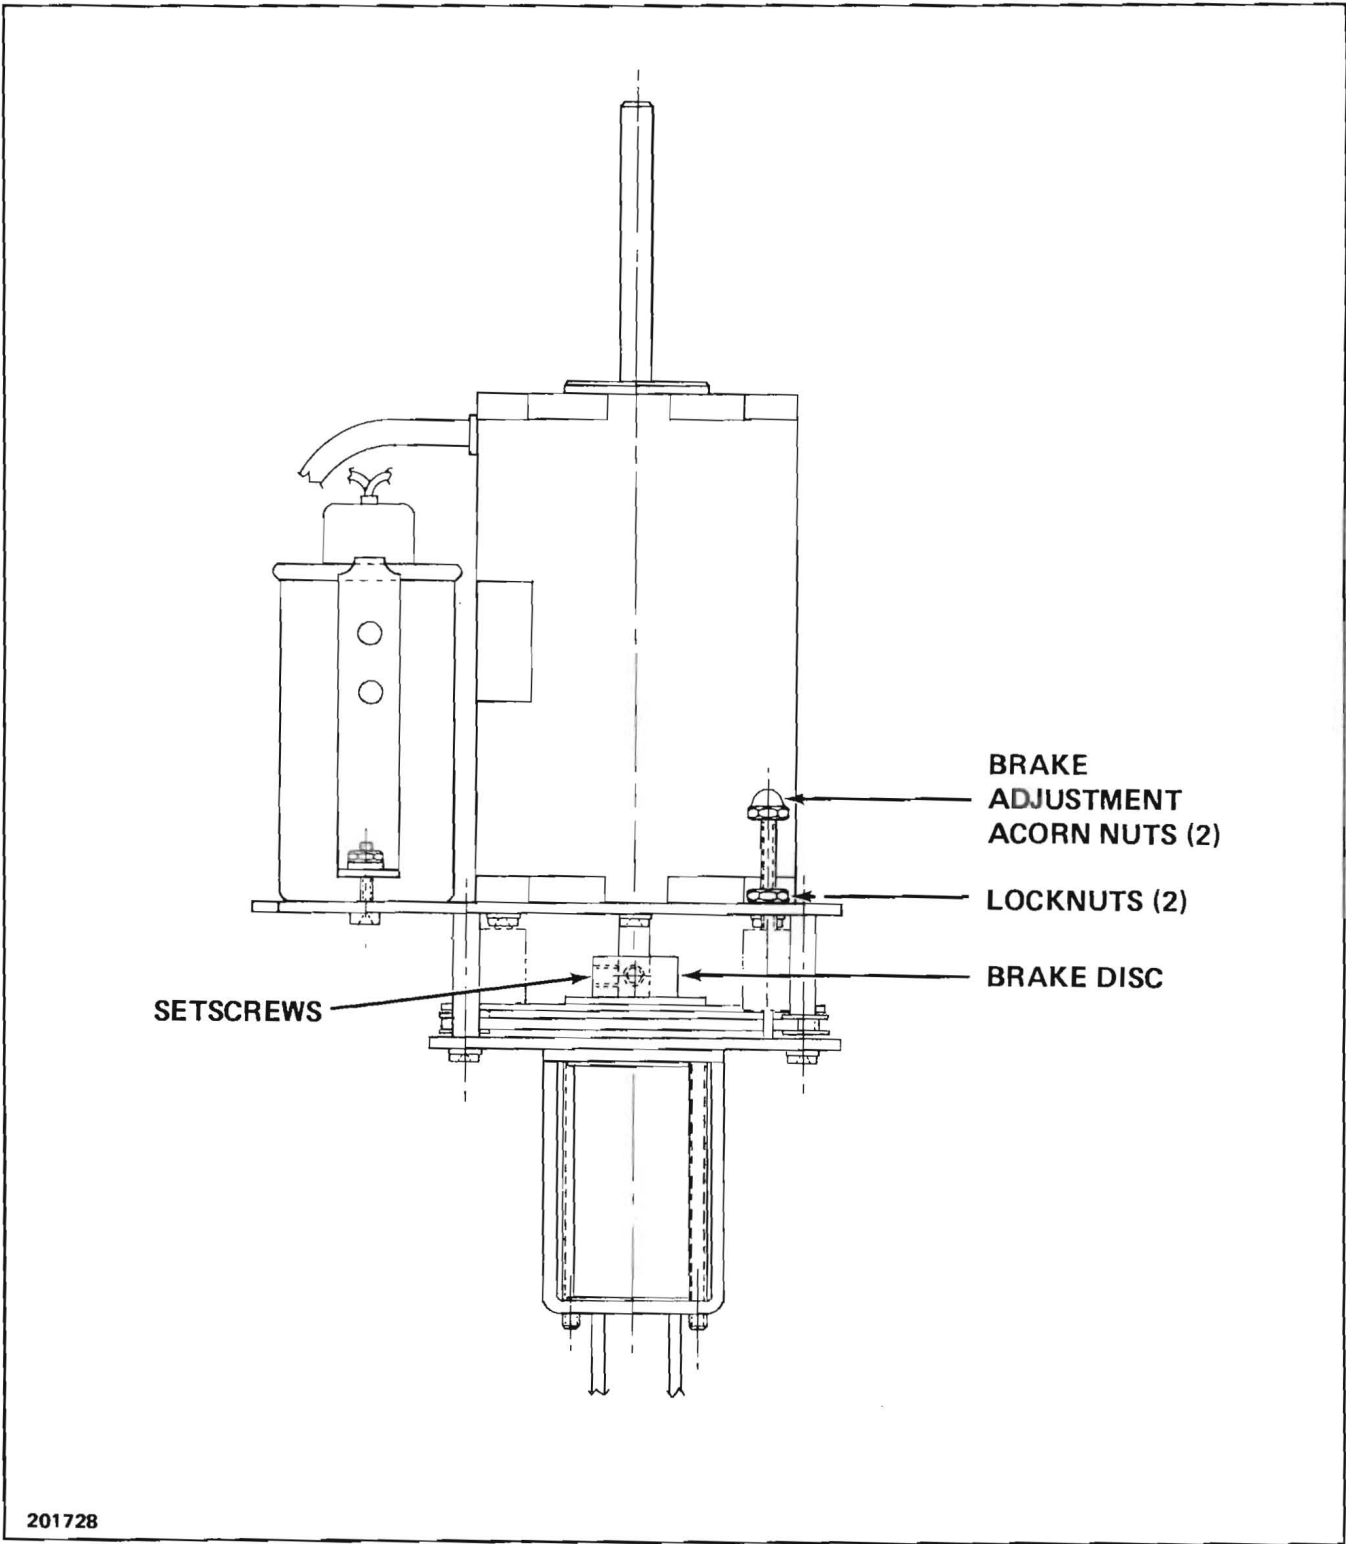
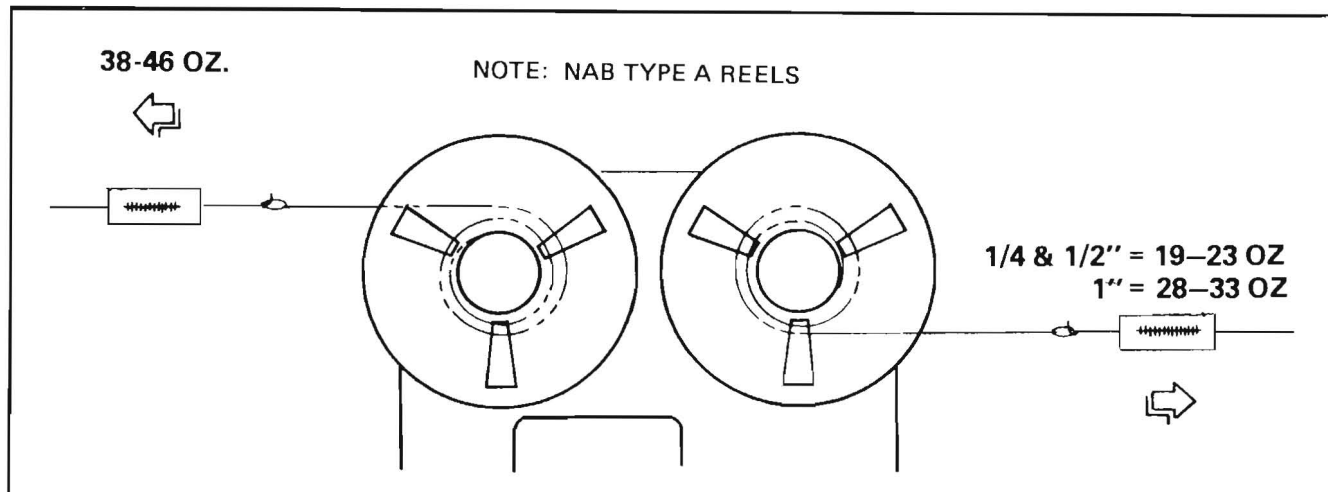

Figure 7-1. Brake Adjustments
Figure 7-2. Suggested Method of Adjusting Brake Torque
- B. Adjust the brake spring tension equally on the supply torque motor assembly by loosening the lock nuts (see Figure 7-1) and turning both brake adjustment acorn nuts equal amounts, so that the friction holdback torque is as shown shown in Figure 7-2.
- C. Repeat steps A and B for the take-up torque motor so that the friction is as shown in Figure 7-2. Measurements should be taken at a constant rotational speed just above breakaway condition. Torque can be measured using a suitable spring scale to give the reading noted on breakaway. The brakes should be exercised and the torque checked in the direction shown.